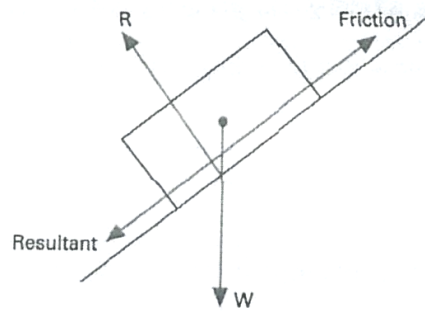

Fig. 3
- 20 some circumstances but a hindrance in others. Let us examine the forces on the box (Fig. 3). Firstly, there is its weight,  $W$ , the gravity force, then there is the reaction,  $R$ , normal to the plane.  $R$  and  $W$  have a resultant force trying to pull the box down the slope. It is the friction force,  $F$ , acting up the slope, that stops it sliding down.